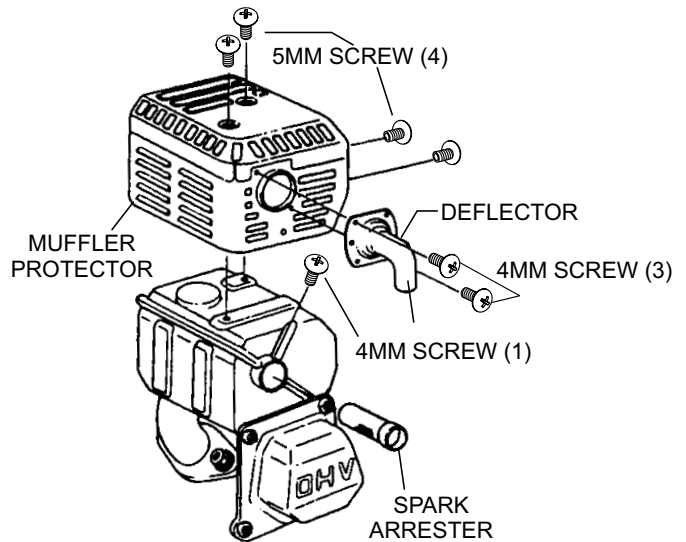

Figure 33. Spark Arrester Removal
1. Remove the 4 mm screw (3) from the exhaust deflector, then remove the deflector. See (Figure 33).
2. Remove the 5 mm screw (4) from the muffler protector, then remove the muffler protector.